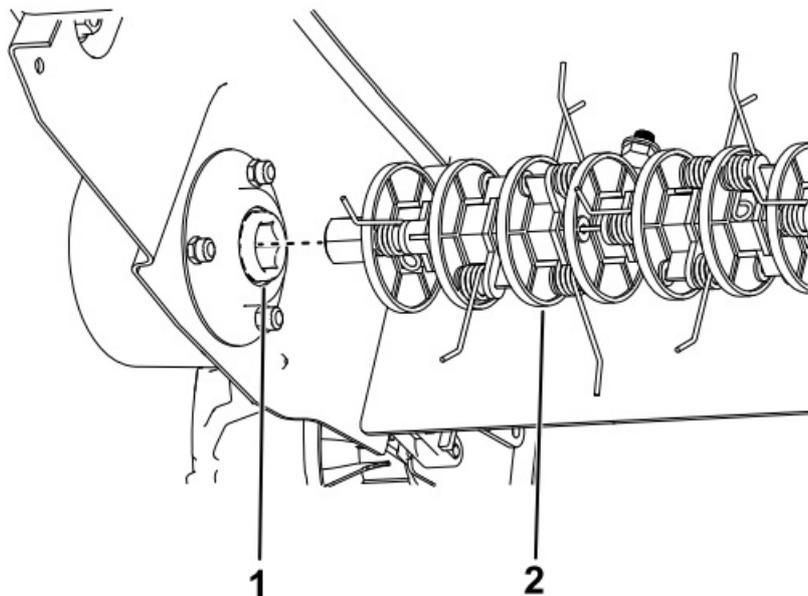

Figure 20
- Slide the other end of the shaft assembly out of the drive and replace with the desired shaft assembly (Figure 20).